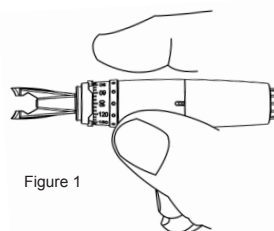

Figure 1
3. After insertion and alignment of the RoboTip, hold the RoboMarker in your dominant hand leaving your index finger free and hovering above the axis dial. (See Figure 1 below)